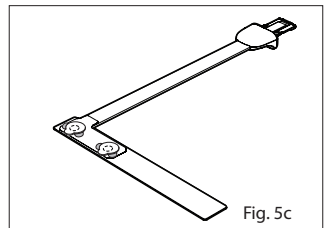

Fig. 5c
3. Refer to Fig. 5c. When the adhesive on the first set of tabs is no longer sticky, a second set may be applied. Up to 3 sets of adhesive tabs may be applied to each window, placing one on top of the other.